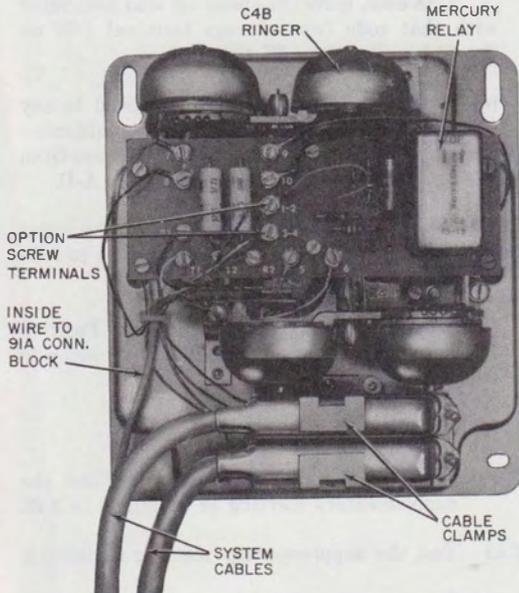

Fig. 29—24B Apparatus Unit
3.41 Locate the apparatus unit (Fig. 29) near the telephone where power failure ringing is required. Remove the cover and mount the base pan assembly on a vertical surface so that the mercury relay on the wiring board is in a vertical position as indicated by the arrows on the relay can.